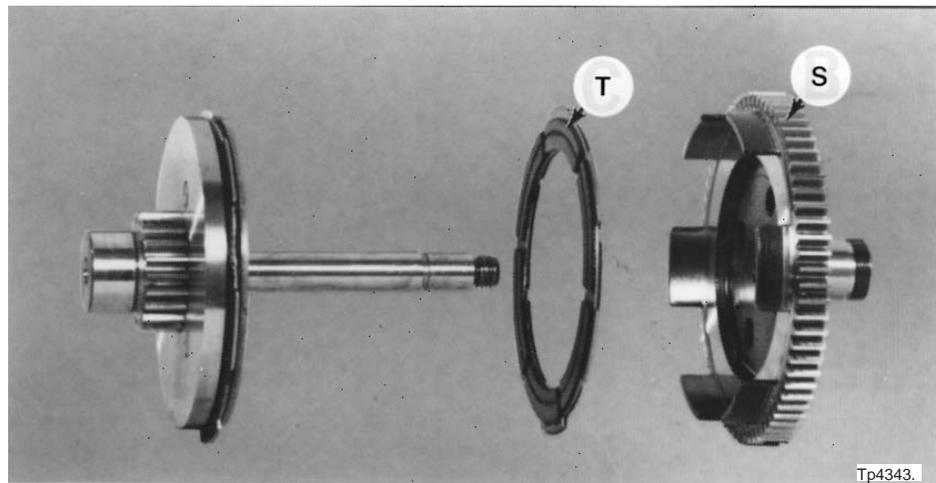

Figure 1.16 - Longitudinal Clutch Components
- b) Remove 70 tooth gear "S", Figure 1.16 .
- b) Replace clutch plate “T”, Figure 1.16 .